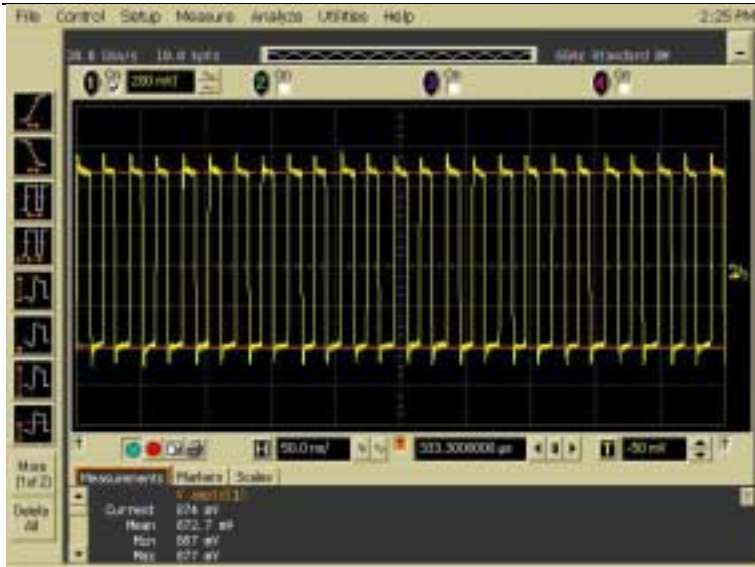

Figure 40 - Small Section of IEEE-1394b (beta) Tone
6. The scope should now be triggering on tones (~50Mhz ~50% duty cycle square wave) and displayed to the screen (please see Figure 40).